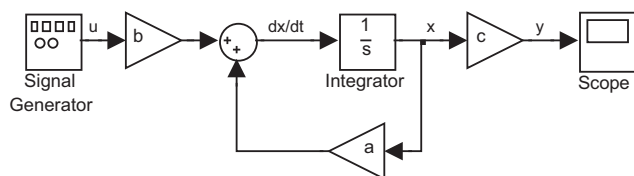
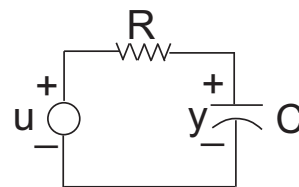

Figure 1: Simulink implementation of eqns. (1–2).
Figure 3: RC Circuit for Prelab Part 2 and Lab Part 2.
where the signals  $u(t)$  and  $y(t)$  are the input and output and the signal  $x(t)$  is the state of the system. The parameters  $a$ ,  $b$ , and  $c$  are real constants with numeric values determined by the designer of the system that is of interest. One possible Simulink implementation of eqns. (1–2) is shown in Figure 1.
- For the circuit shown in Figure 3:
- (a) Implement a Simulink all integrator block diagram (similar to that shown in Figure 1) for the RC circuit of Figure 3. Enter the values of  $a$ ,  $b$ , and  $c$  by double clicking the gain icons.